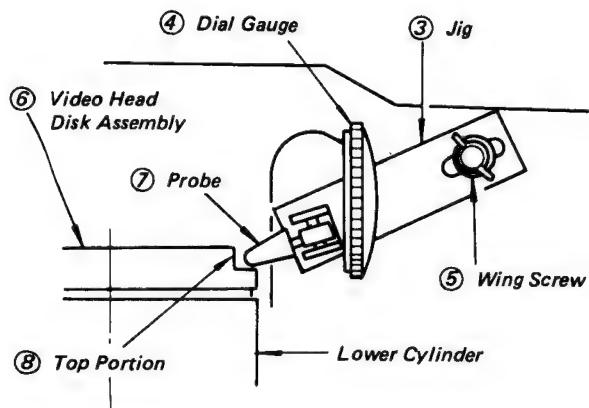

Fig. 5-106 Adjusting the Eccentricity Gauge
1. Loosen the wing screw **⑤** and adjust the dial gauge **④** so that the needle is at the center of the scale (see Figs. 5-106, 5-107).
2. Tighten the wing screw **⑤**.
3. While gently turning the video head disk assembly **⑥** clockwise by hand, read the dial gauge **④**.